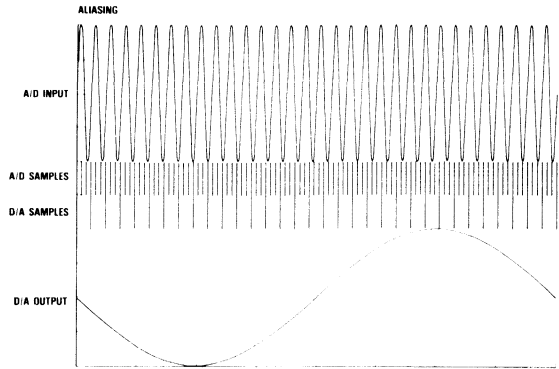
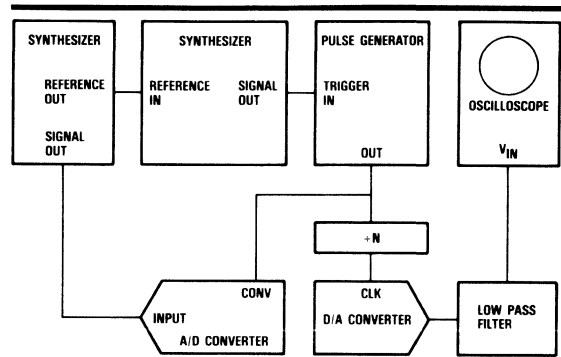
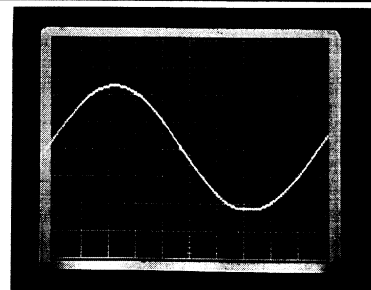
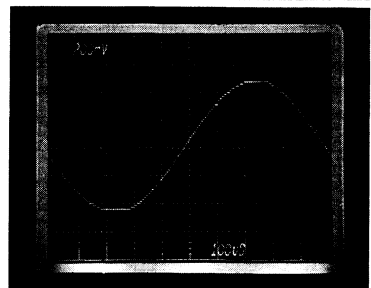

Figure 1. Beat Frequency Test
Figure 2. Beat Frequency Test Set-Up
Figure 3. Spurious Code
Figure 4. A/D Converter With Missing Codes
The test used to determine the bandwidth of an A/D converter is the "Beat Frequency Test." The principle behind this test is to use "aliasing" to convert a high-frequency input signal to a low-frequency output signal which is easier to analyze. This is done by providing the A/D converter with a high-frequency sine wave input, and then sampling the input at a rate offset by a small delta in frequency from an integral (N) multiple of the input frequency. A D/A converter is given every Nth A/D output; this produces an output signal of the A/D which is an aliased version of the input. This is shown in figure 1, where the upper high frequency input is sampled at a rate slightly faster than three times its frequency (A/D samples are taken at the locations of the upper bars), every third A/D sample (lower bars) is presented to a D/A converter, and the resultant output signal is the bottom low frequency signal. In a typical set-up, the analog reconstruction (D/A output) is examined on an oscilloscope for spurious and missing codes. Figure 2 shows a typical test set-up. A spurious code is defined as a non-continuous change in the output of the A/D which is not reflected in the input signal. Figure 3 shows an example of a spurious code in the reconstructed output of an A/D converter. A missing code is defined as a code which has a code size less than the minimum specified (see definition for Q, code size). Figure 4 shows an example of the output of an A/D which has missing codes. The photographs for figures 3 and 4 were both obtained with a beat frequency test.